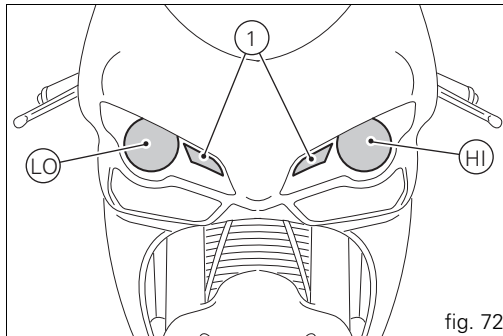

fig. 72
Shown in fig. 72 are the locations of the low beam bulb (LO), high beam bulb (HI) and parking light bulb (1).